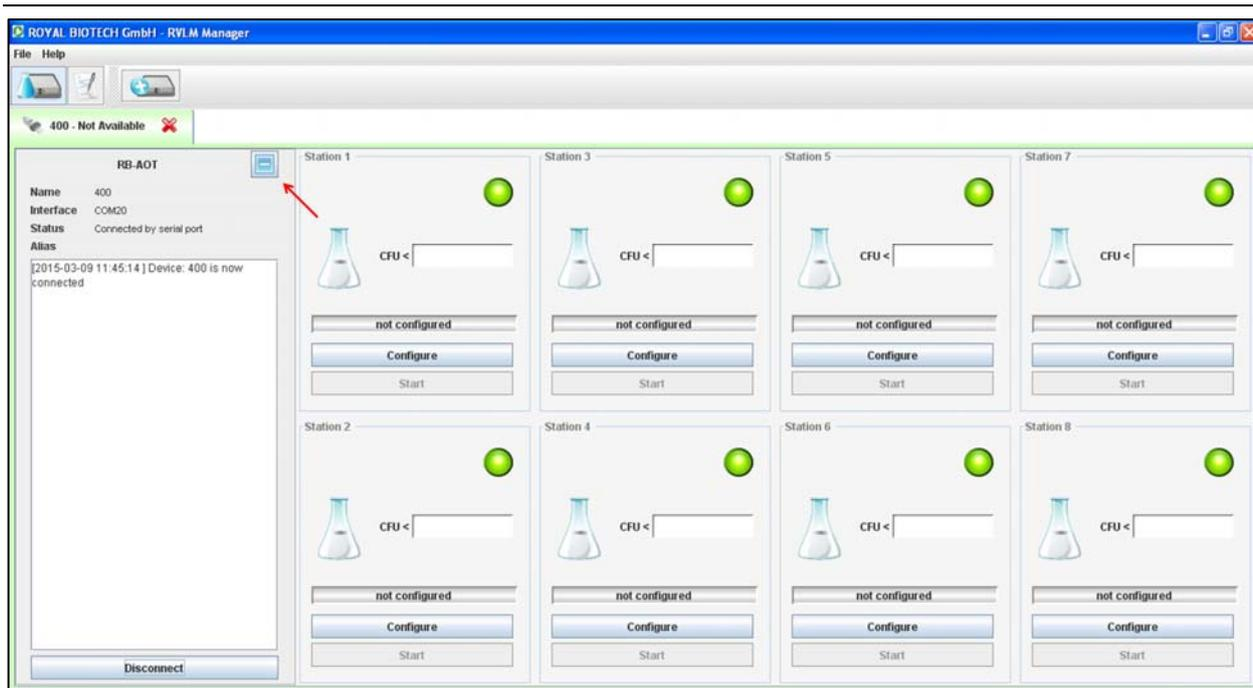

Fig. 6. RVLM – User interface, software ready
- Before the analysis is started all the RVLM station lights shown on the user interface are green (fig.6), thus indicating that it is possible to set the parameters of analysis through the configuration of the single stations. **Note:** if you want to enlarge the user interface, you can click on “-“ in the data log (see red arrow in fig.6).